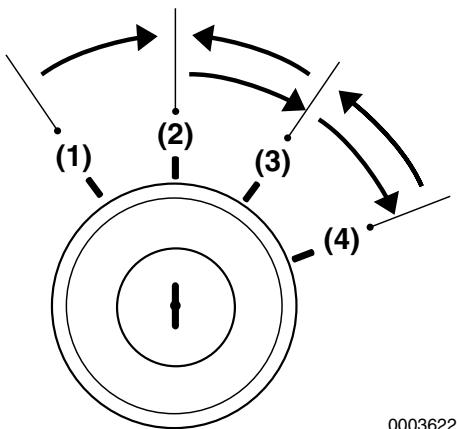

Figure 16
The GLOW position (**Figure 16, (1)**) is the start aid position. Electric current to the glow plug or air heater (if equipped) is turned on. The air heater is standard on the 4JH5E and 3JH5E and optional on the 4JH4-TE and 4JH4-HTE models. When the key is released, the switch will automatically move to the ON position.
The START position (**Figure 16, (4)**) allows current to the starting motor. When starting the engine, move the key to the START position and release. The key will automatically move to the ON position.
When the key is in the OFF position (**Figure 16, (2)**) the electric current is off. The key can be inserted or removed in this position.
The ON position (**Figure 16, (3)**) allows electrical current to the controls and equipment and allows the engine to keep running. To stop the engine, keep the key switch in the ON position and push the STOP button. After stopping the engine, turn key to OFF position.